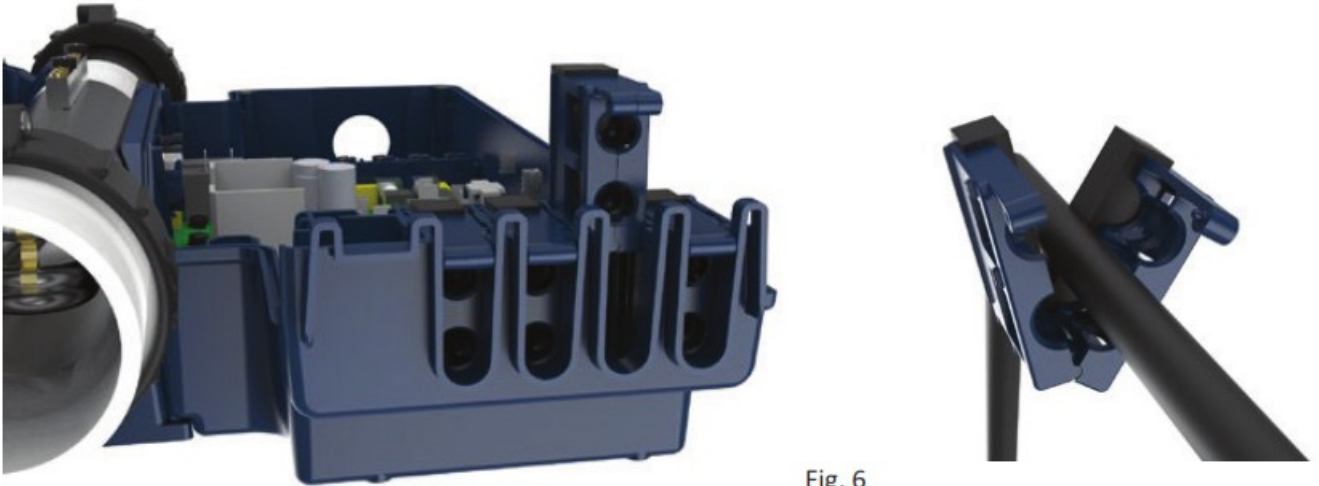

Fig. 6
- Once the components are unplugged from the controller, trace the cords to the appropriate cable clamp on the right side of the controller. Slide the clamp out of the slot and open the clamp to remove the cord (Fig. 6).